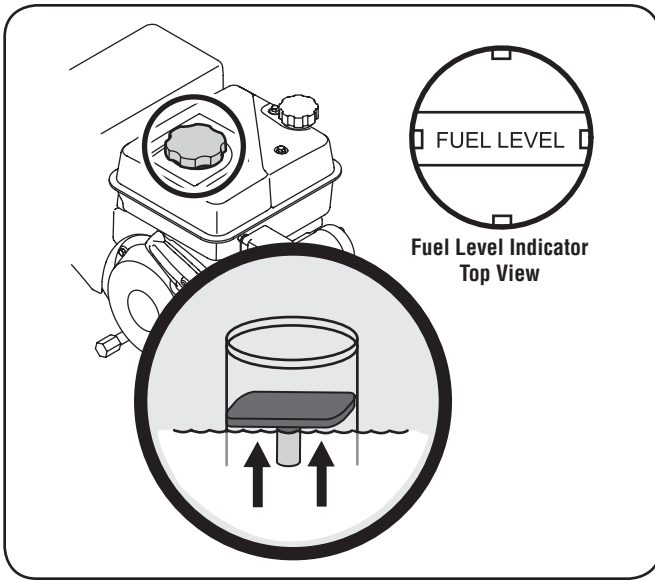

Figure 3-6
2. A fuel level indicator is located in the fuel tank. Fill tank until fuel reaches the fuel level indicator, Fig. 3-6. Be careful not to overfill.